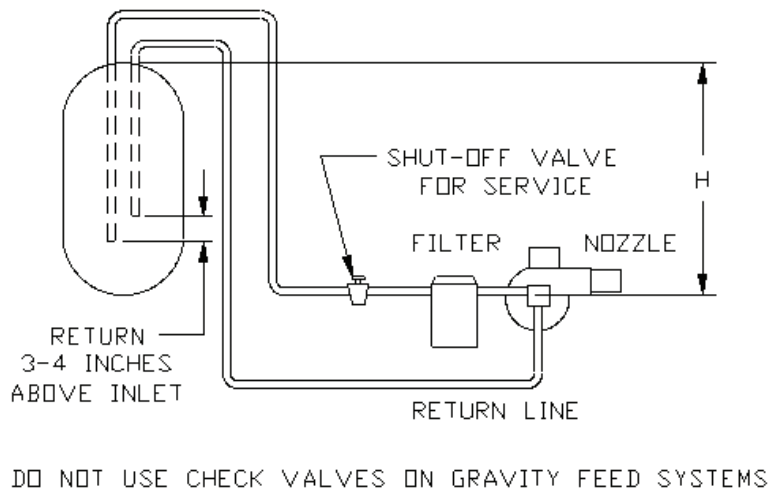

FIGURE 10.2: TWO-PIPE GRAVITY FEED SYSTEM (NOT RECOMMENDED)
- c) TWO-PIPE GRAVITY SYSTEM (not recommended) - A vertical distance from top of the tank to center line of the pump (Dimension 'H') over 8 feet will result in a pump inlet pressure in excess of the 3-psi limit in NFPA-31. This type of system should be converted to a one-pipe gravity system, as doing so will result in lower inlet line flow and longer filter life. See Figure 10.2